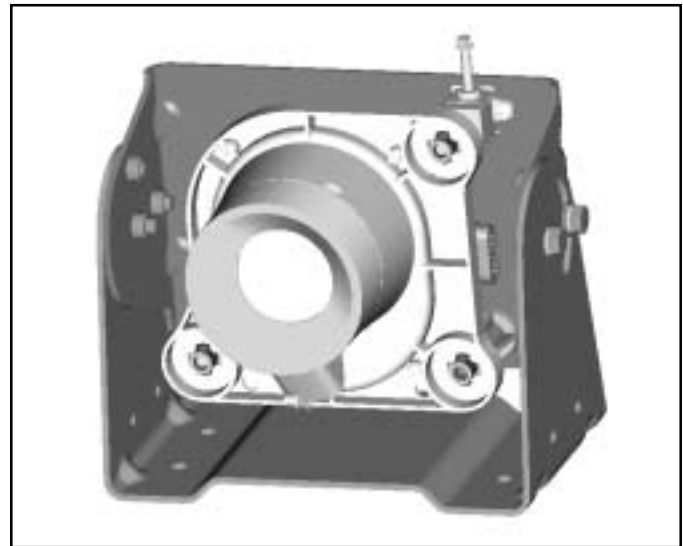

FIGURE 33 - FULLY ASSEMBLED CAMERA
22. Position the IR camera onto the factory-installed aiming assemblies. Refer to Figure 33.